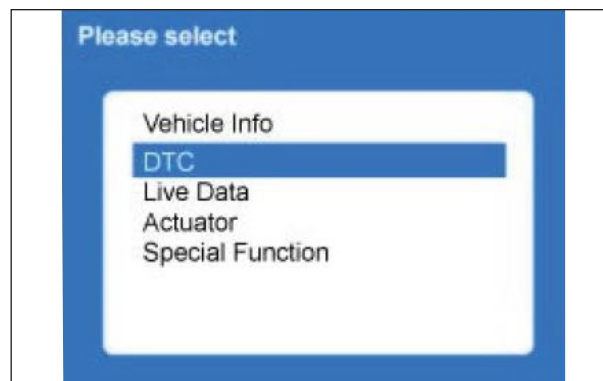

Fig. 7.8
- Display error code if any error is present in the vehicle. It has two pages (Fig. 7.8)